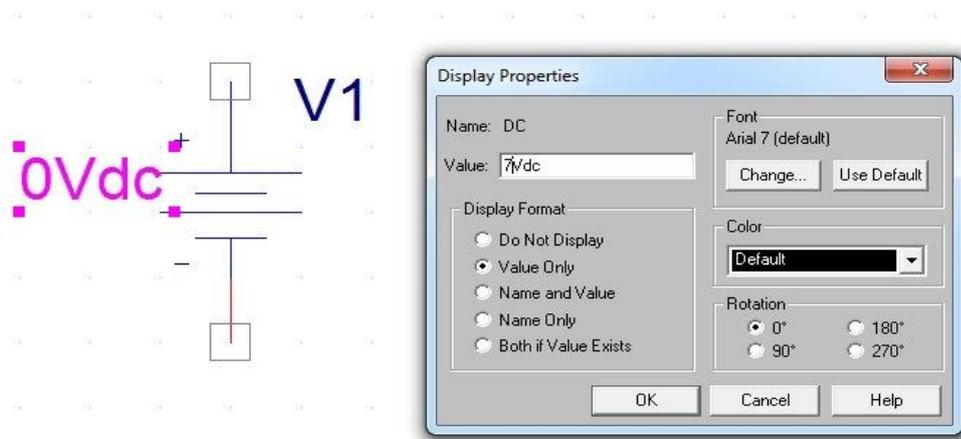

Figure 15
- When you want to change the parameters of components, you can do it by double-clicking the value of it. You can see an example of it on figure 15. The value of power supply is changed in that figure.